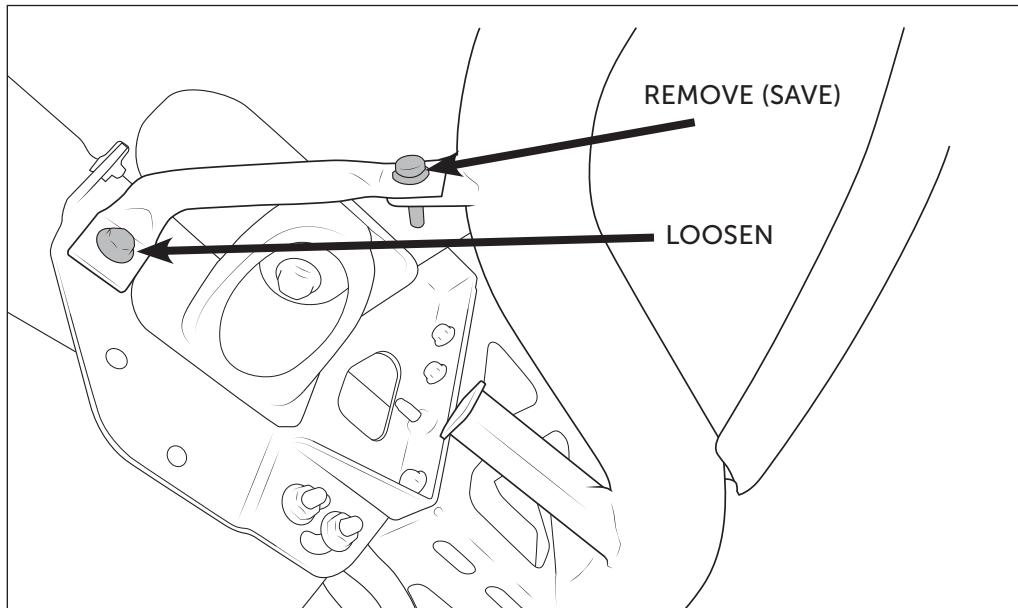

Figure 5
2. Un-install pencil brace at bumper side, loosen on frame side (fig. 5).